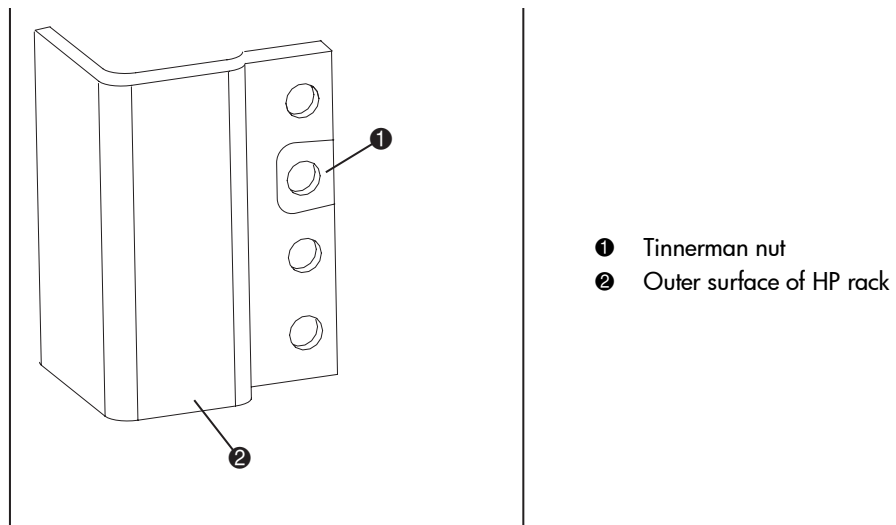

Figure 19: Installing a Tinnerman nut on the rack-front rail in U1
5. Install a Tinnerman nut in the top holes of U1 for both the left and right rack-front uprights, as shown in Figure 19.